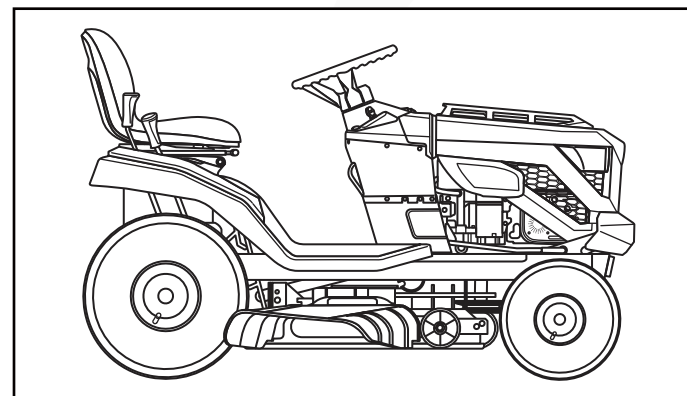

Fig. 11
1. Put the unit on a level surface as shown in Fig. 11.